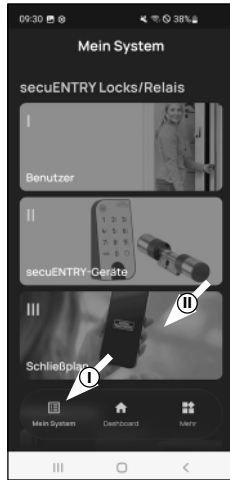

Fig. 1
- Open the "My System" menu (I) (Fig. 1).
- Tap on the fourth menu item "III - Locking plan" (Fig. 1).